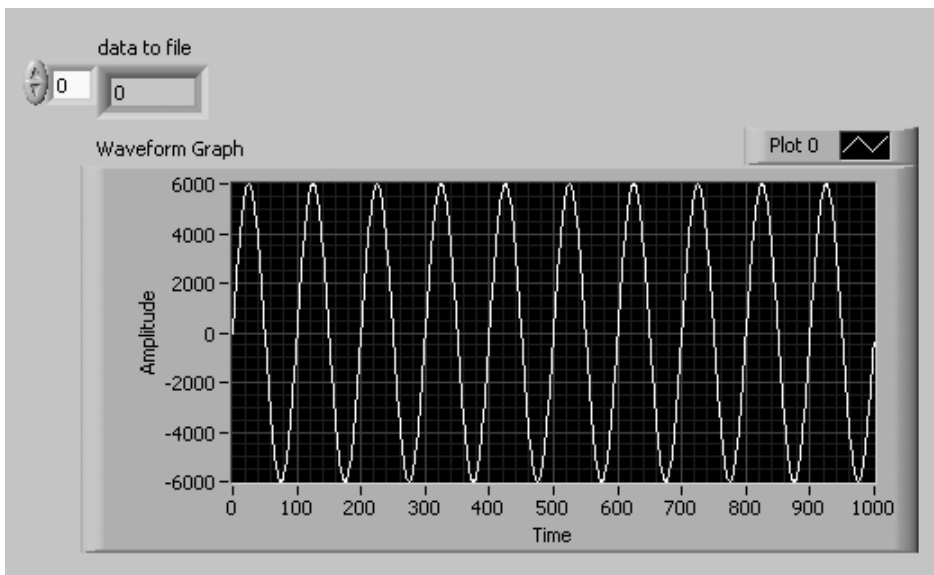

Figure 9.44
1. First, let's create the VI that writes a binary file. Build a front panel like the one shown in Figure 9.44, with one chart and one array of numbers.